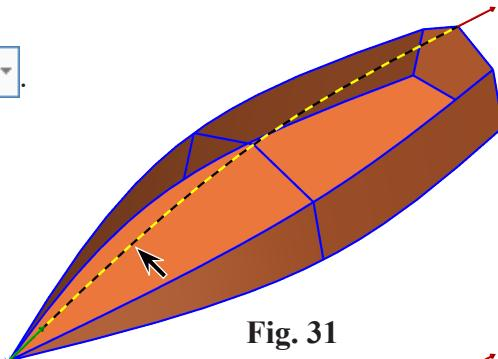

Fig. 31
Step 2. Select Chain  (C) in Chaining dialog box.
Step 3. Click “keel” spline to select chain 1, Fig. 31.